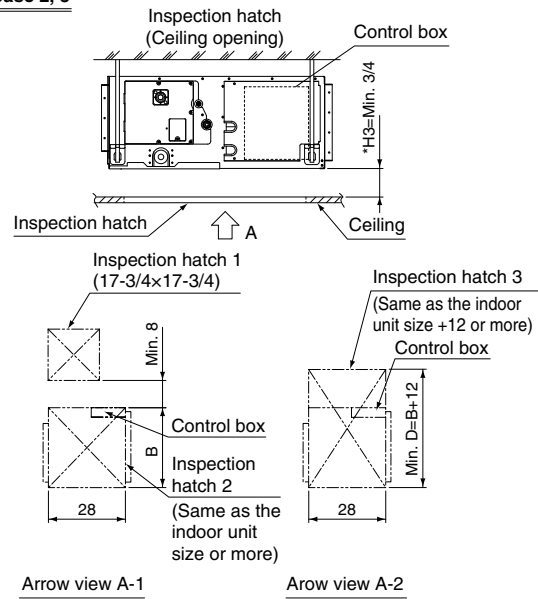

Fig. 2-3
2. Inspection hatch 1 (17-3/4 × 17-3/4) for the control box and inspection hatch 2 for the lower part of the product (see arrow view A-1). (Refer to Fig. 2-3)
3. Inspection hatch 3 for the lower part of the product and the lower part of the control box (see arrow view A-2). (Refer to Fig. 2-3)